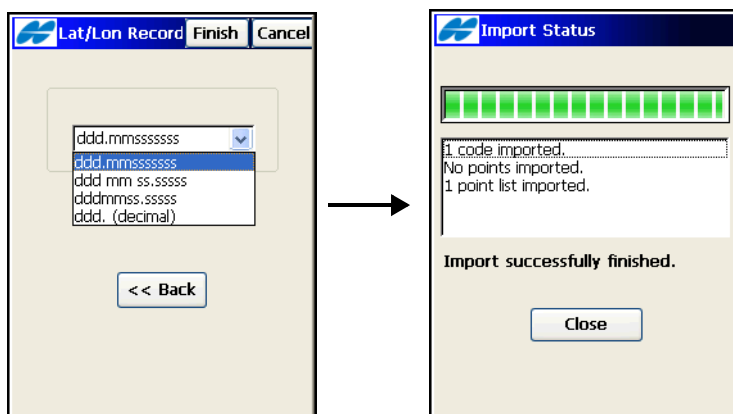

Figure 5-21. Select Latitude/Longitude Format
- **Next** – opens the *Lat/Lon Record Format* screen if a type of geodetic coordinate is selected (Figure 5-21 on page 5-19).
On the Latitude/Longitude Record Format screen (Figure 5-21 on page 5-19), select the format you want to represent the degrees of Latitude and Longitude in the exported file from the drop-down list.
- **Finish** – opens the *Import Status* screen and starts the Export process (Figure 5-21 on page 5-19).
On the **Import Status** screen (Figure 5-21), tap the **Close** button to return to the main screen.